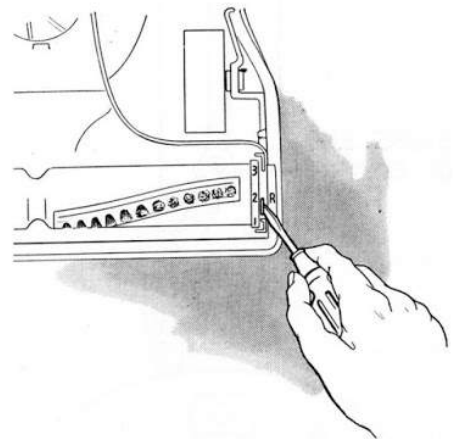

FIG. 130—Adjusting brush roll on Models 1 and 80 to compensate for brush wear
- c. On Models 27, 28 and 305, raise the latch-levers at ends of the nozzle as far as they will go. On Model 80, use a screw driver to push the spring clamps toward rear of cleaner. Figure 130.